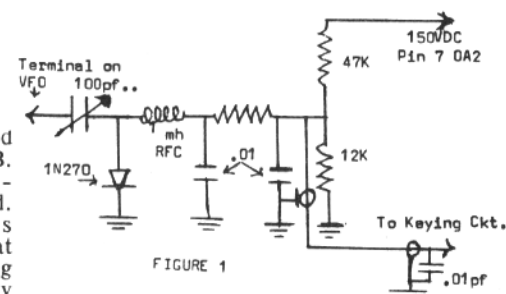

FIGURE 1
12. You will notice the code bar assembly running the width of the typing unit, and in about the middle, vertically. You can see this assembly to some modest extent in Fig. 1 of the Feb. issue 1970.